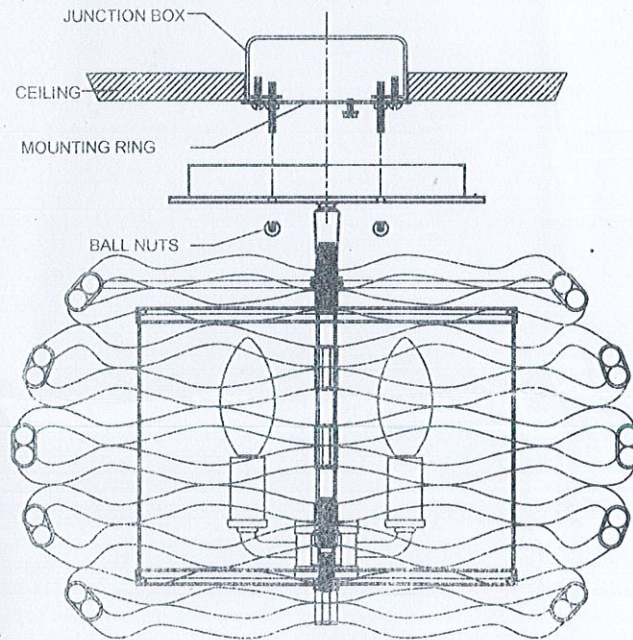

FIGURE-02
5. Attach the fixture to the mounting ring and secure it with ball nuts. (See Figure-02)